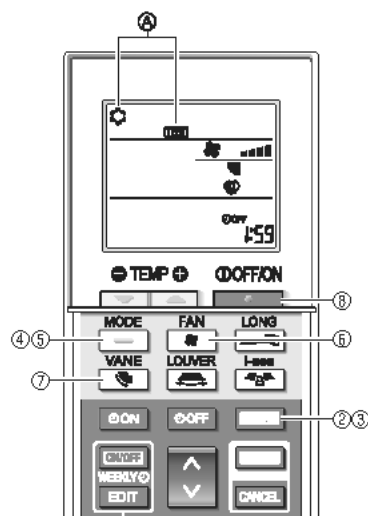

Fig. 8-5
- ① Turn on the power to the unit at least 12 hours before the test run.
- ② Press the [] button for 5 seconds. (Fig. 8-5)
- ③ Press the [] button.
- ④ [TEST] and the current operation mode are displayed. (Fig. 8-5)
- ⑤ Press the [] button to activate cool mode, then check whether cool air is blown out from the unit.
- ⑥ Press the [] button to activate heat mode, then check whether warm air is blown out from the unit.
- ⑦ Press the [] button and check whether the fan speed changes.
- ⑧ Press the [] button and check whether the auto vane operates properly.
- ⑨ Press the [] button to stop the test run.